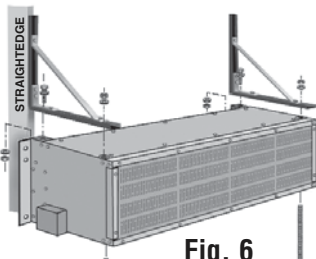
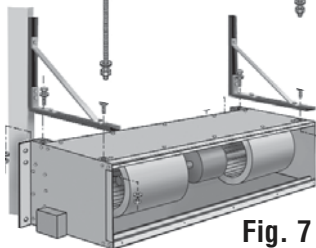

Fig. 6
Fig. 7
1. Cut 2 pieces of threaded rod at least 24¹/₂" long. Place a washer and a nut on the end of each rod and place the rods through the bottom of the two (2) front mounting holes. **(See Fig. 6)** Next, place each wall bracket onto the threaded rod making sure the vertical brace is at the back of the unit. Using a straightedge, align the back of each bracket with the back of the air curtain so they are flush. Place a 1³/₄" bolt with washer through the bracket into each back mounting hole and secure the unit with a washer and nut. Place a washer and nut on the threaded rod and tighten all four(4) nuts to secure the unit to the brackets. **Note:** If The intake grill is removed, four(4) 1³/₄" bolts with washers and nuts can be used to attach the unit to the brackets. **(See Fig. 7)** Replace the intake grill.